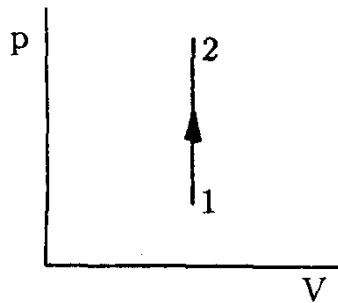

Fig. 2.1 Constant Volume Process
- Figure 2.1 shows the constant volume process on a p - V diagram.